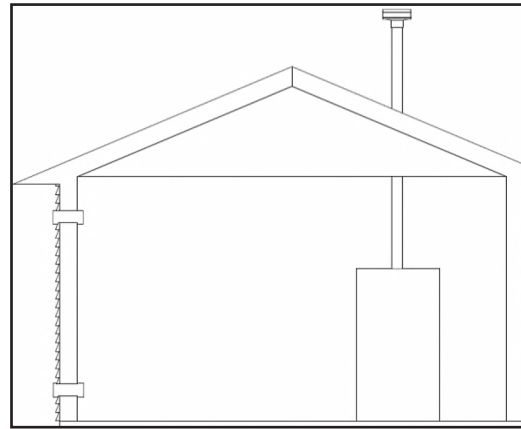

Figure 20 - Combustion Air from Outdoors
1. If air is taken directly from outside the building with no duct, provide two permanent openings to the mechanical room each with a net free area of one square inch per 4000 BTU/hr input. See Figure 20.